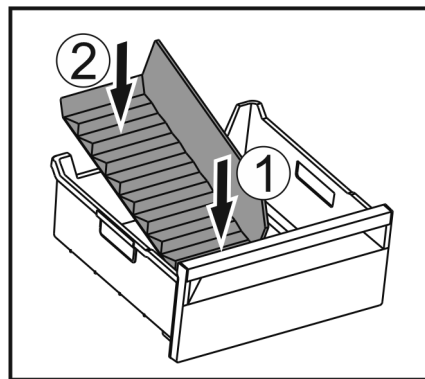

Fig. 177
- Insert the front part of the ice compartment divider. Fig. 177 (1)
- Lower the rear part of the ice compartment divider to the drawer bottom. Fig. 177 (2)